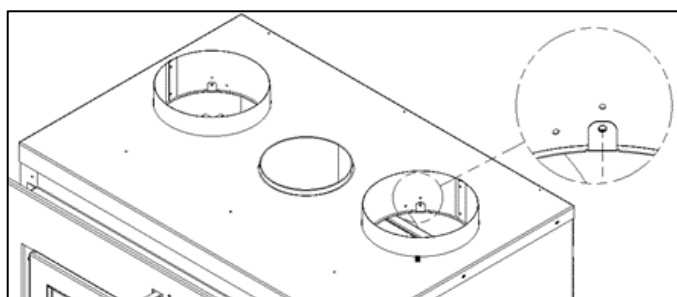

Figure 3-22: Installation of 8 Inch Duct Adapters
10. Install the 8 inch duct adapters (Item 9 in Figure 3-17) through the newly cut knockouts and screw them to the bent tabs (Figure 3-22).